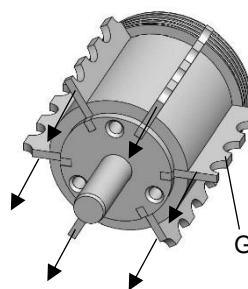

Fig. 7.4 – Serrated rail
- 4) Pull the serrated rails (G) out to the front and replace them with new serrated rails, see Fig. 7.4.